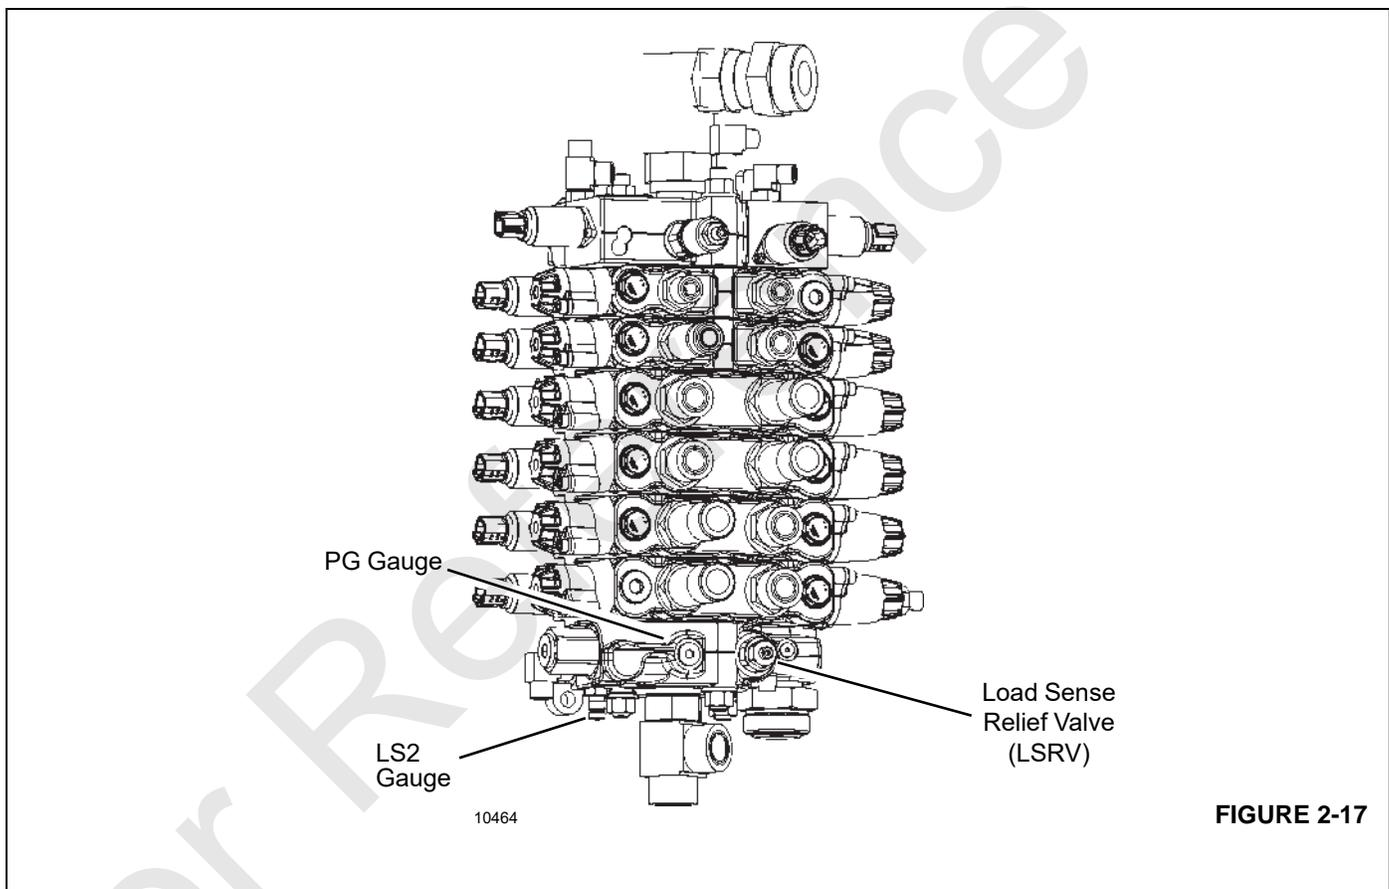

FIGURE 2-17
7. Install a gauge at the pump pressure port PG on the Directional Control Valve as shown in Figure 2-17.
8. Install a gauge at the load sense pressure port LS2 on the Directional Control Valve as shown in Figure 2-17.
To set the maximum pump pressure, the load sense relief valve (LSRV) (Shown in Figure 2-17) must be raised to the maximum pressure setting on the main control valve according to the procedure in *D. Load Sense Relief Valve (LSRV) Pressure Setting (Directional Control Valve)*, page 2-28, then the max pump pressure can be adjusted via the PC adjustment screw on the pump.
2. Ensure that a pressure gauge is in the PG gauge port. (Figure 2-17)
2. Ensure that a pressure gauge is in the load sense gauge port LS2 (Figure 2-17).
1. Loosen the 3/4" hex locknut at the LSRV (Figure 2-17).